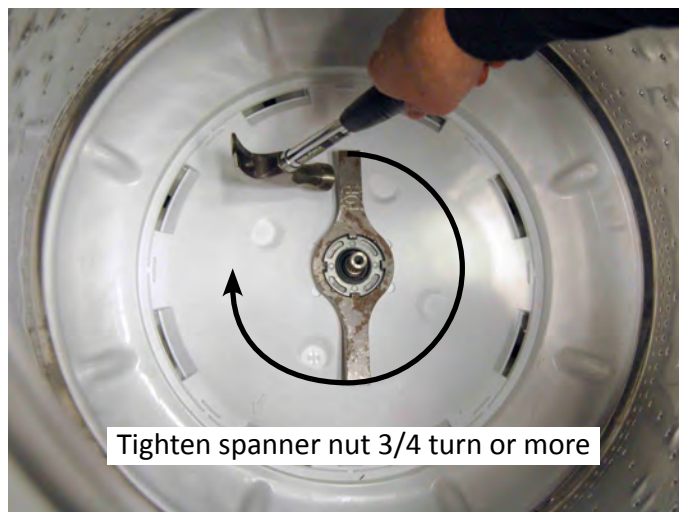

Figure 10
**REASSEMBLY NOTE:** When re-installing the basket, screw on spanner nut until it is finger tight. Then, using a mallet or hammer, tighten an additional  $\frac{3}{4}$  turn (see Figure 10). Do NOT apply Loctite® to spanner nut. Applying Loctite® to the spanner nut will make it virtually impossible to remove again.